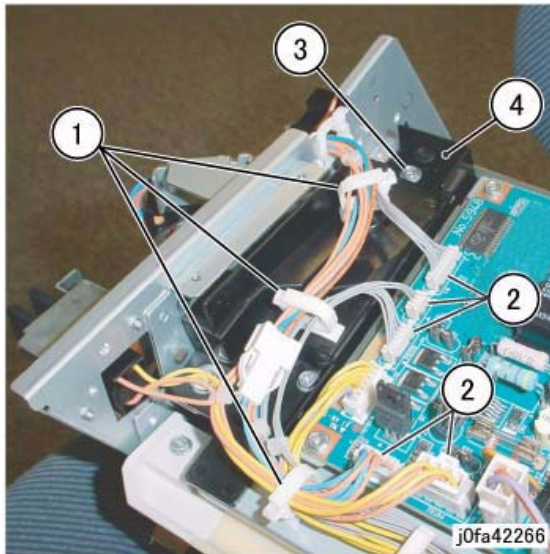

Figure 1 Removing the Connector Bracket (0fa42266)
4. Remove the Connector Bracket. (Figure 1)